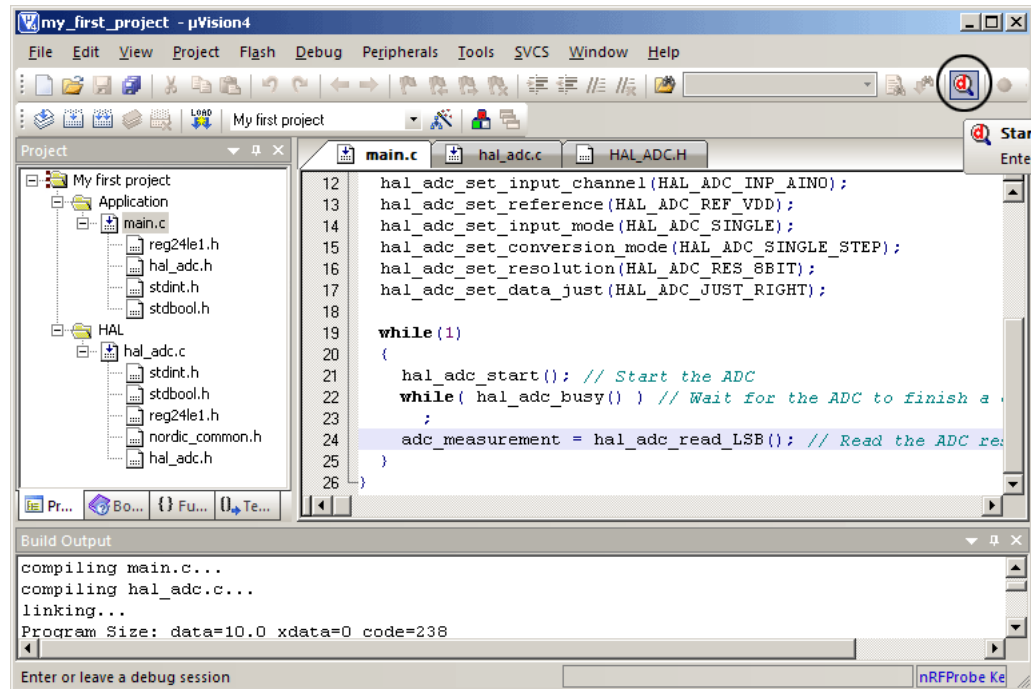

Figure 32. Start debug session (shortcut Ctrl + F5)
1. To start the debug session select the **Start Debug Session** button. See encircled area in Figure 32. on page 28.